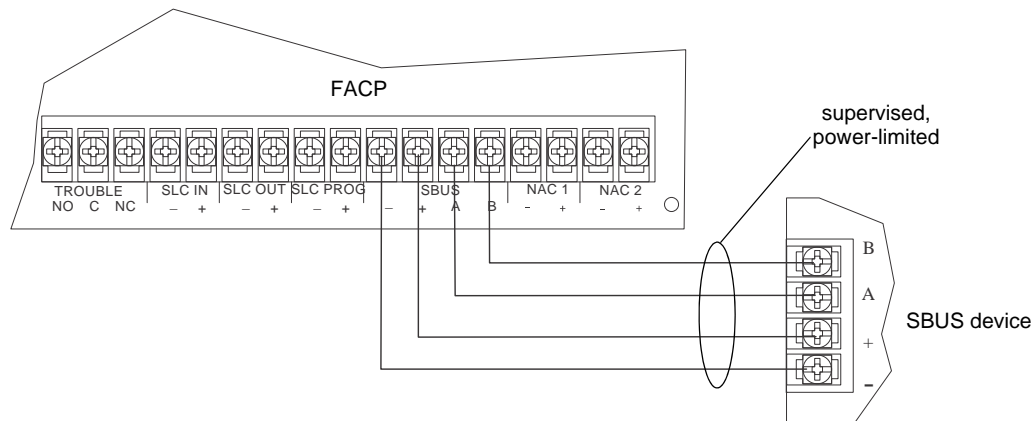

Figure 4.11 SBUS Class B Wiring
Figure 4.11 illustrates the Class B configuration.
3. Connect the TR-RD1G/R to the panel (see Figure 4.11).
4. After the annunciator wiring to the panel has been completed (refer to Figure 4.11), replace the electronic assembly in the back box. Place the bezel over the back box and tighten the set screws on the bezel.